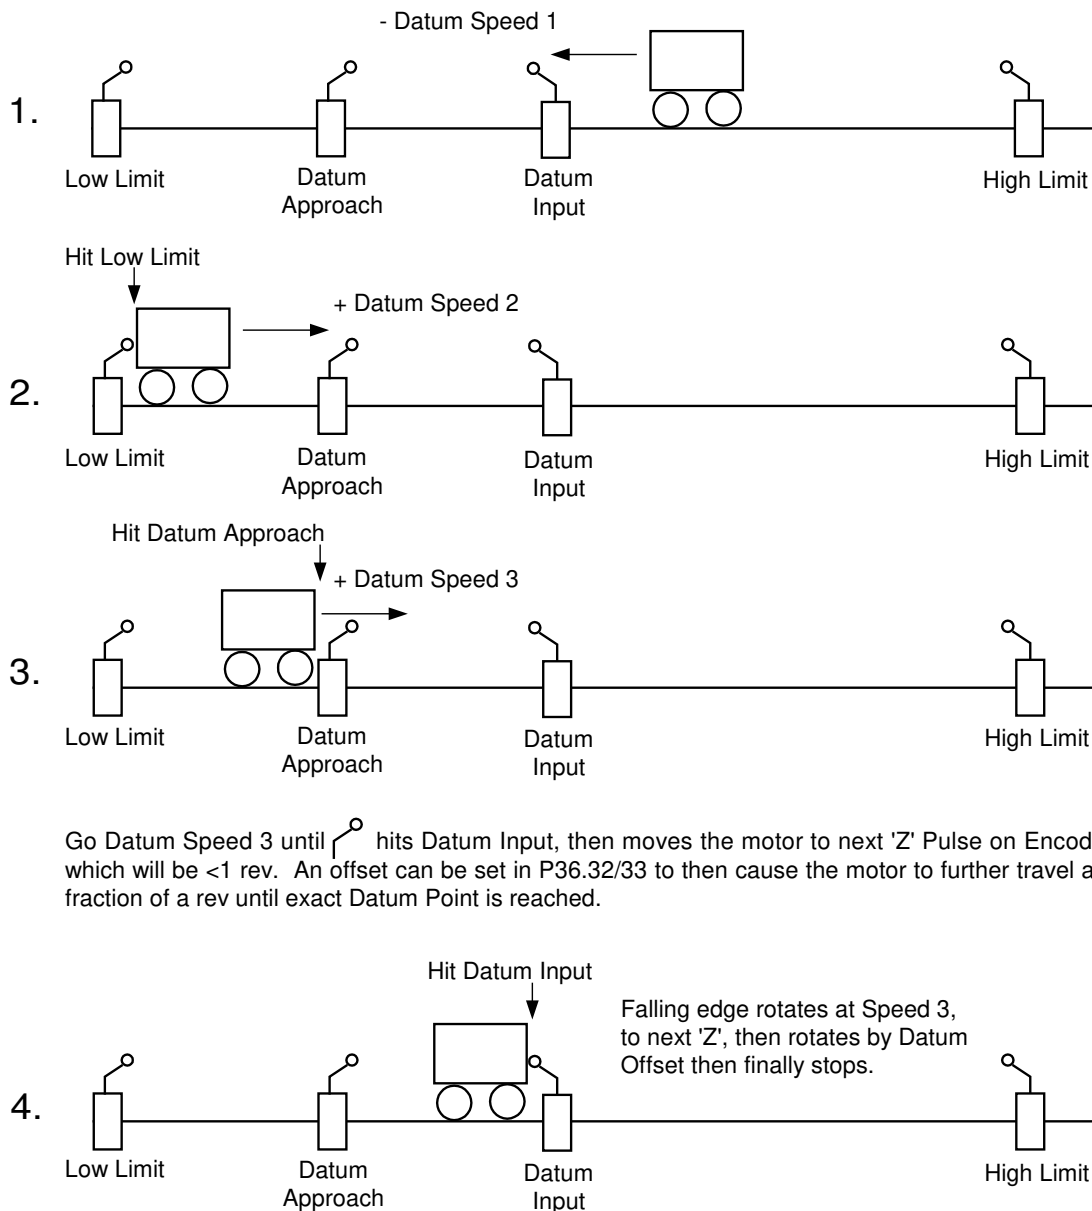
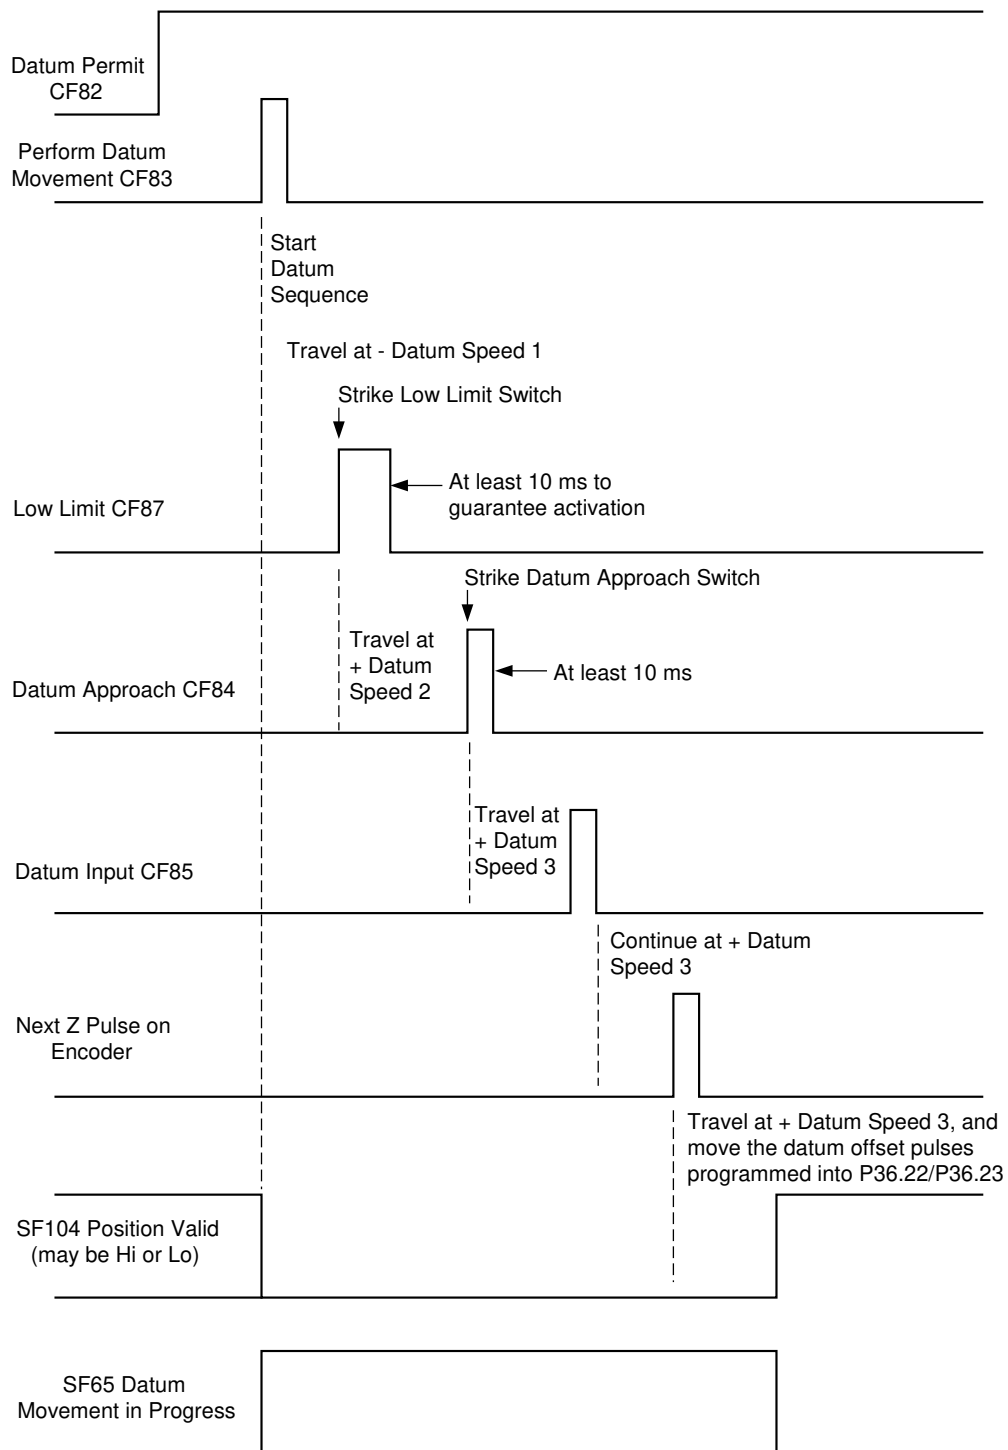

Figure 6-37. - Example of Datum Movement Sequence
Figure 6-38. – Control Flag Logic Diagram for Datum Sequence
1. The drive goes at Minus Datum Speed 1 (P36.35) until Low Limit (Control Flag 87) is high. It then goes at Plus Datum Speed 2 (P36.36) until Datum Approach (Control Flag 84) is high. It then goes at Plus Datum Speed 3 (P36.37) until a falling edge on Datum Input (Control Flag 85) is detected. Finally, it goes at Plus Datum Speed 3 until the encoder Z pulse is detected - see Figure 6-37 and Figure 6-38.